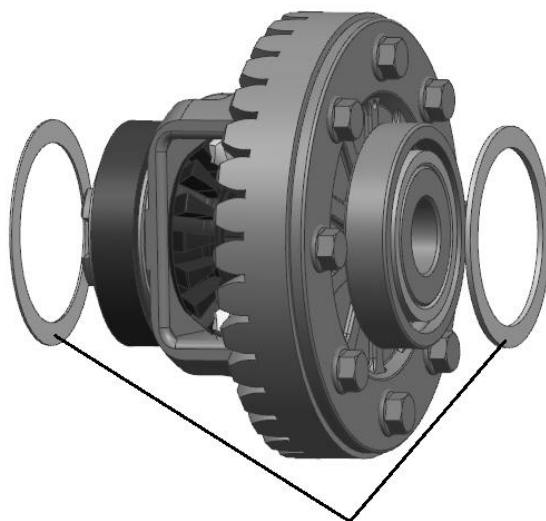

Fig 6
7. Remove the shims from the differential assembly. Be sure to keep the shims together for reassembly. →Fig 6